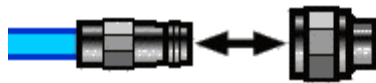

Figure 4-1 Axes of the interconnect devices in a straight line
a) Align the axes of the two interconnecting devices to ensure that the axes are in a straight line, so that the plug pin of the male connector concentric may slide into the socket finger hole of the female connector. As shown in Figure 4-1: